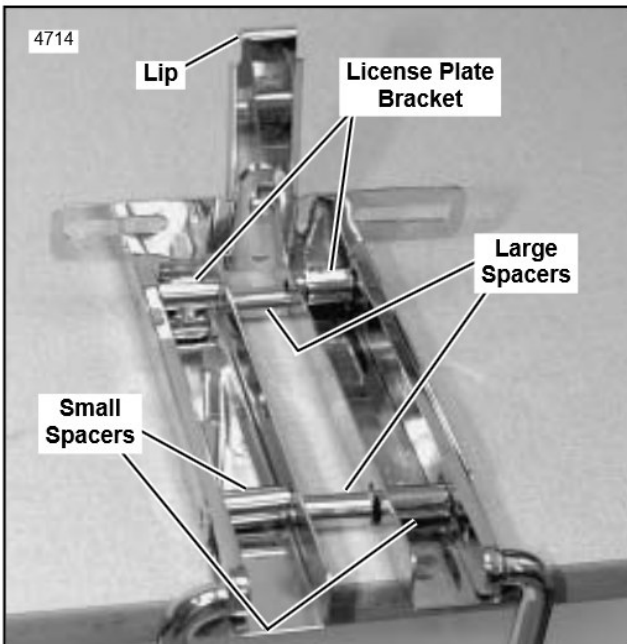

Figure 3. Position Inside Spacers/License Plate Bracket
4. See Figure 3. Position two large spacers between the two inner channels, front and rear.
Two 1-1/4 inch spacers and two 1/4 inch spacers (packaged separately) are provided for use in the event that the rider chooses not to install the backrest weldment. Looking back at Figure 3, the two 1-1/4 inch spacers replace those that fit inside the inner channels at the front of the assembly (backrest side). At the rear, the 1/4 inch spacers fit between the license plate bracket and the outboard side of the inner channels.